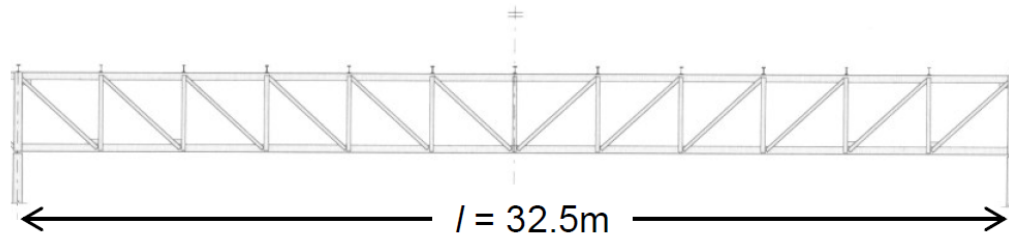

Figure 1: Geometry of the main truss beam.
- Lattice truss (see Figure 1):